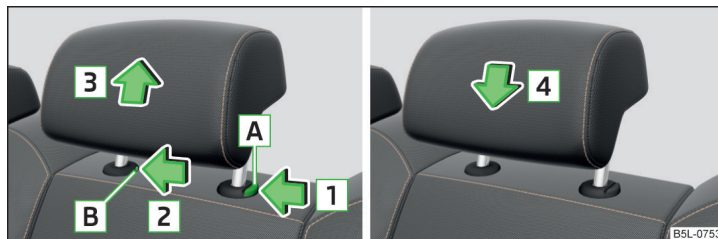

Fig. 68 Rear centre headrest: removing/installing
- › Press the locking button **A** in the direction of arrow **1** » Fig. 68, while at the same time using a flat screwdriver with a max. width of 5 mm to press the securing button in opening **B** in the direction of arrow **2**.